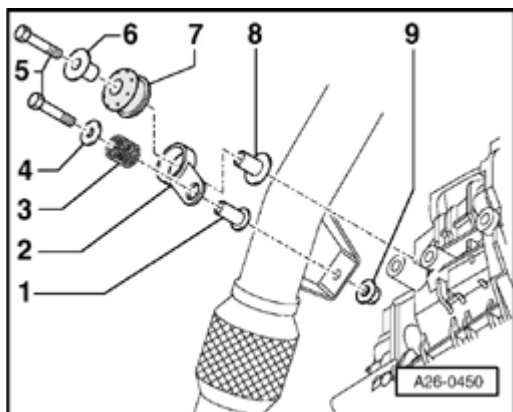

Fig. 480: Individual Right Mounting Components For Vehicles With Manual Transmission
- Individual mounting components for vehicles with manual transmission. See **Fig. 480**